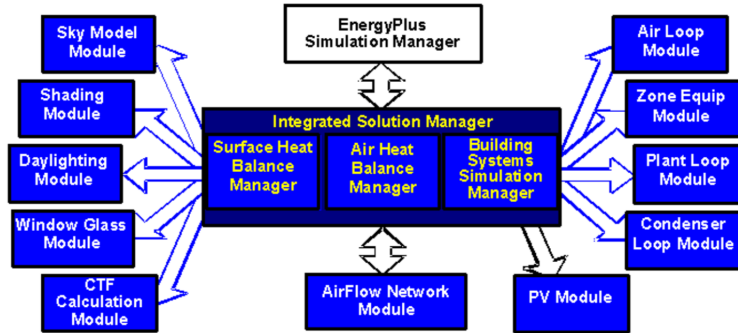

Figure 4: EnergyPlus Algorithm Overview
- EngineeringReference.pdf. This file explains the algorithm EnergyPlus's computation is based on. It explains computations in detail and shows the equations being used. Figure 4 shows the overall computation scheme of EnergyPlus.